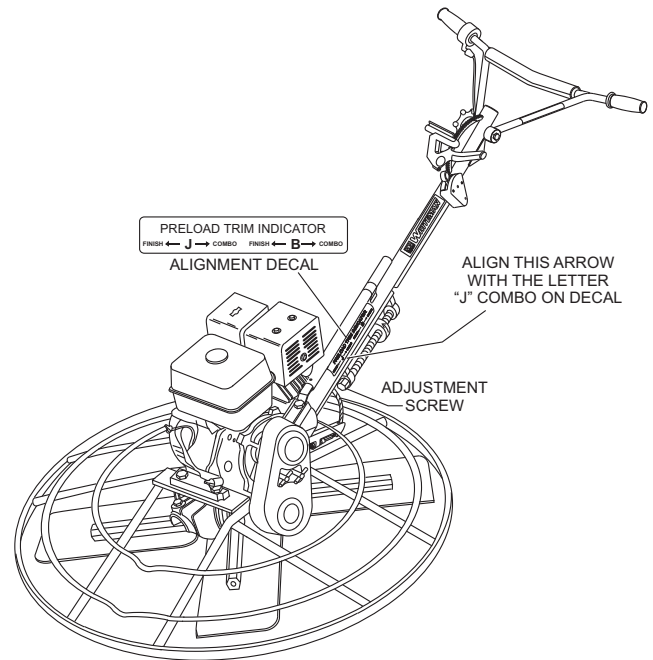

Figure 16. Pre-load Adjustment
2. Locate the adjustment screw on the underside of the handle tube (Figure 16).